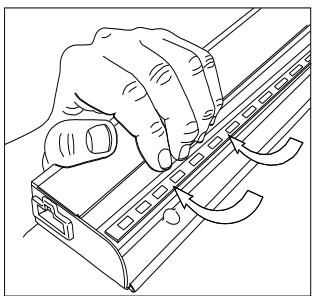

Figure 2
1. Open wireway cover by gently pressing inward to release cover from thumbnail lances on housing. See Fig 2
2. Locate wiring access plate on back of fixture. Remove Knock-out (KO).
1. Open wireway cover by gently pressing inward to release cover from thumbnail lances on housing. **See Fig 2**